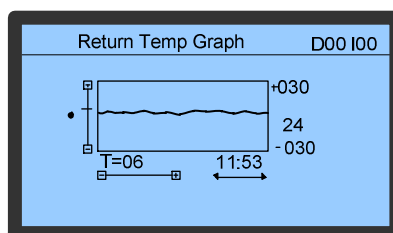

Figure 1-37 Return Temp Graph interface
1. Select **Temp/Hum Graph** -> **Return Temp Graph** to enter the **Return Temp Graph** submenu, as shown in Figure 1-37.